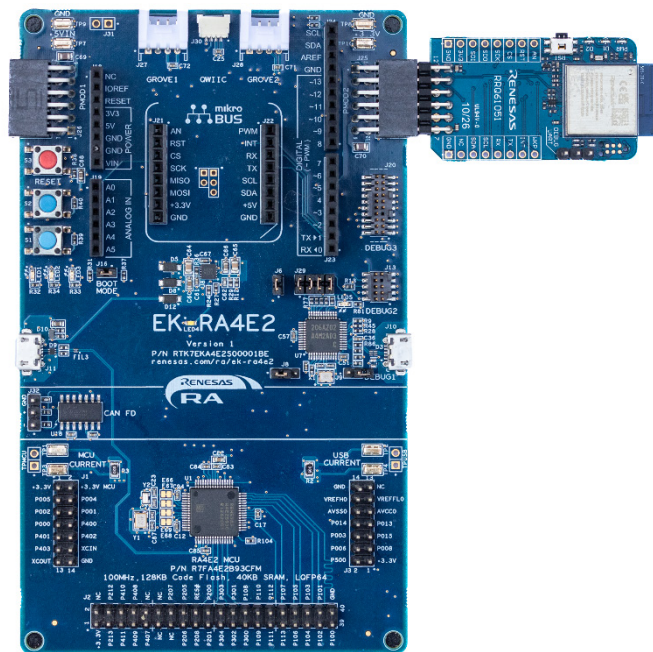

Figure 2. EK-RA4E2 and QCOT-RRQ61051EVZ Hardware Setup
3. Insert the PMOD board carefully, ensuring correct orientation as shown in Figure 2.